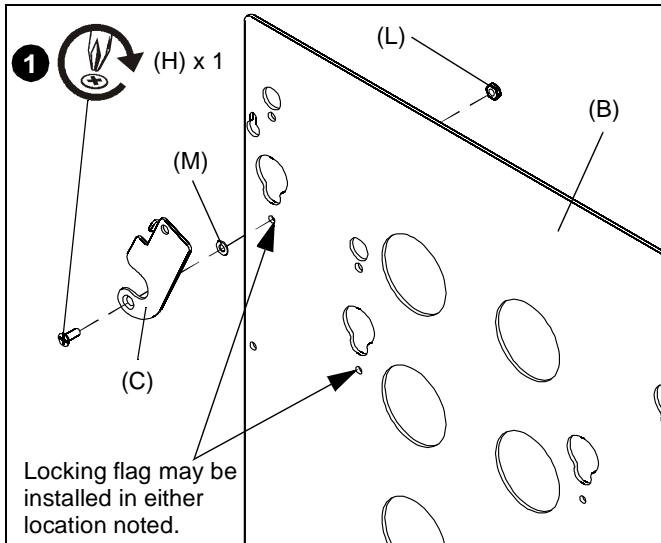

Figure 1
1. Attach locking flag (C) to faceplate (B) using one 10-24 x 1/2" Phillips undercut machine screw (H), one spacer (M), and one 10-24 Nylock lock nut (L). (See Figure 1)
**NOTE:** The locking flag may be installed in one of two locations, dependent upon the display mounting pattern. (See Figure 1)